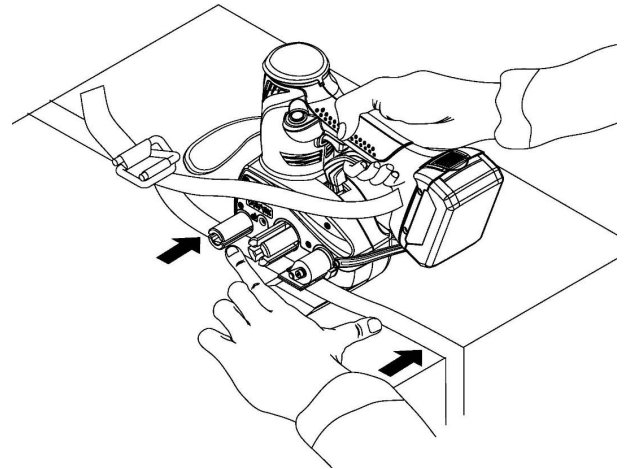

FIGURE 9.
- **QUICK STRAPS ALIGNMENT:** please use two fingers (thumb and index finger) of your left hand to push straps into the innermost side as (FIGURE 9) shown to get a quick straps alignment. Release the Operation Lever after feeding the strap well.